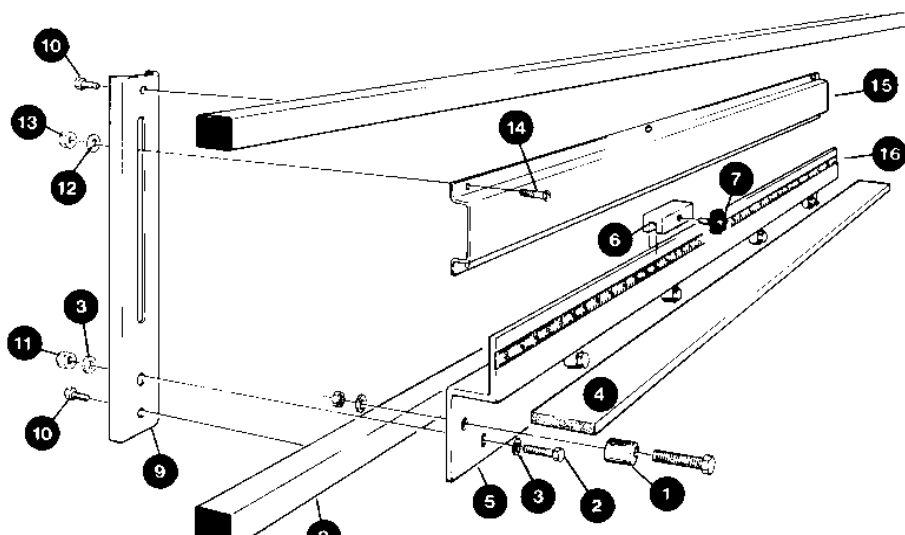

Figure 60: Pre-assembly of Midway Fence
The Midway Fence Accessory is a removable horizontal work piece support that mounts halfway up the tool frame. It allows narrow work pieces to be worked at waist height. The fence consists of left and right fixed brackets that mount to the frame, and removable supports for each side. The accessory contains the components shown in figure 60.
1. Lay out the parts shown in figure 60 on a horizontal surface (table or bench) for pre-assembly. Note that one end of each fence extrusion is cut at a 45° angle. The units should be pre-assembled so that these beveled ends will fit against the center of the tool frame at final assembly.
- Tip the top of the rear support brackets (#9 in Fig. 60) under the **upper** horizontal frame member (#8), raise the fence, and push the lower ends of the rear support brackets down behind the **lower** horizontal frame member. The nuts may have to be loosened slightly to perform this step.
3. Slightly loosen the bolts that secure the aluminum extrusion (#5, Fig. 60) to the rear support brackets (#9), to allow the extrusion to be moved up or down by tapping it with a mallet.